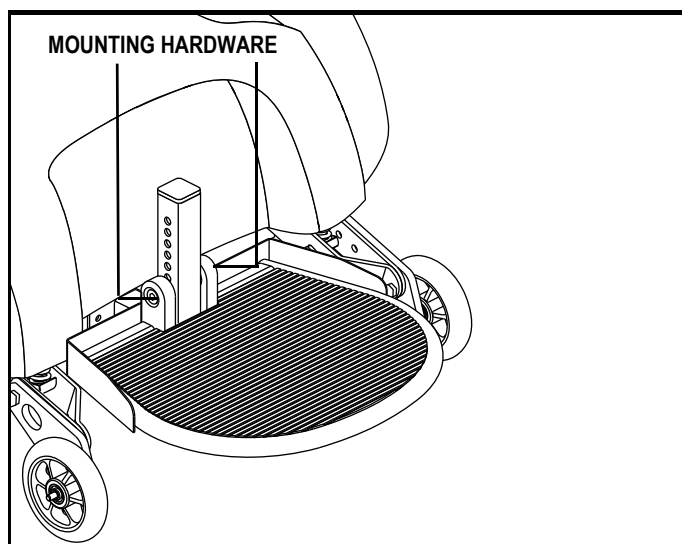

Figure 14. Foot Platform Height Adjustment
1. Use a hex key to remove the mounting hardware from the foot platform. See **figure 14**.